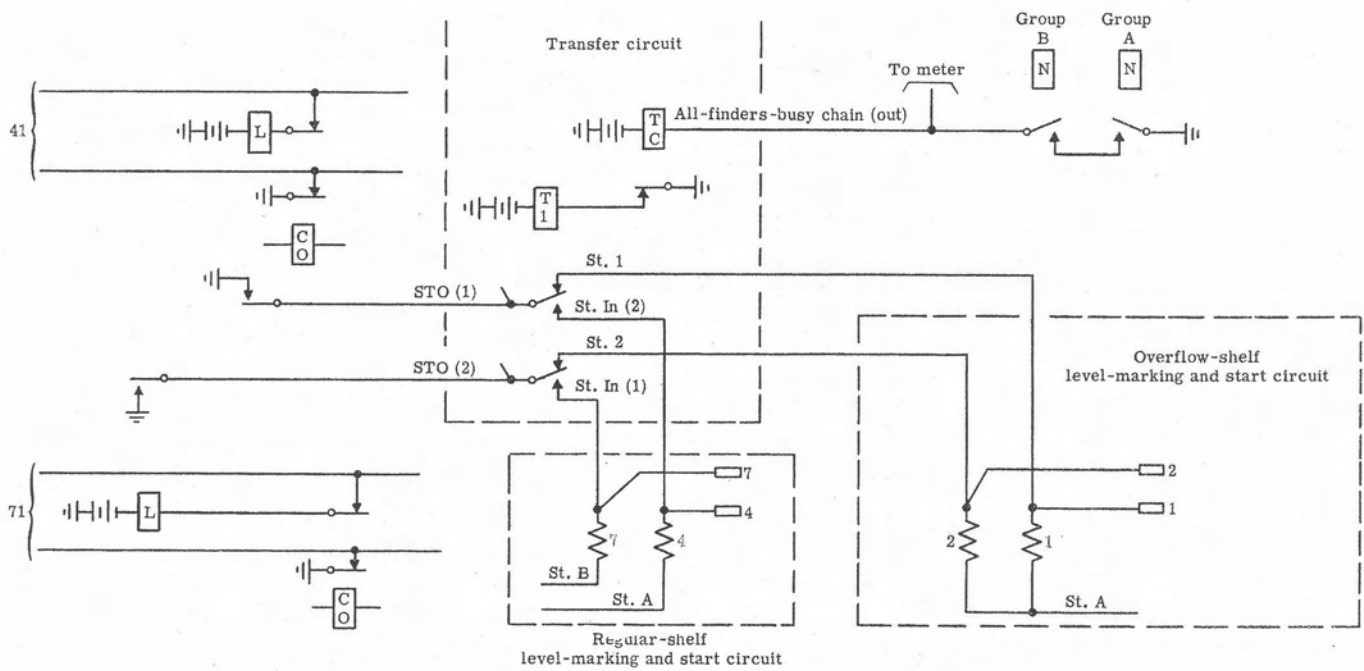

Figure 47. Overflow-shelf transfer circuit.
**7.4 Circuit operation.** Overflow-shelf linefinder and group-relays circuits are similar to those of a regular shelf. In addition, an overflow shelf has a "transfer" circuit (figure 47). Normally overflow lines will be found by overflow-shelf finders, but when all overflow-shelf finders are busy, the transfer circuit transfers the overflow lines' start leads to the regular shelf. For example, when line relay 41 operates, the ground it places on lead STO(1) goes through relay T1 make contacts to linefinder vertical-bank contact 1 and through overflow-shelf level-marking and start resistor No. 1 to lead St.A.